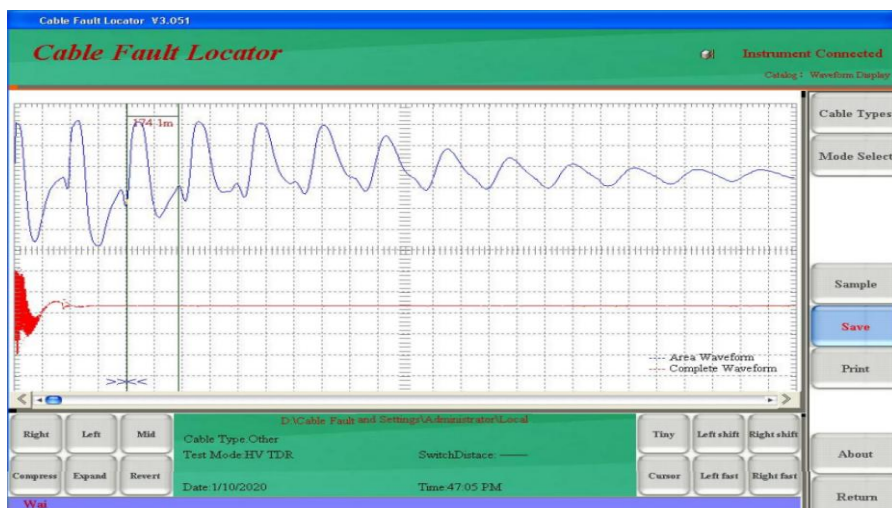

Fig 6-8
C. Press the "Cancel Sampling" key, and the instrument will stop sampling. The interface is shown in Figure 6-8 below. Move, broaden and compress the waveform left and right through the overall waveform control area to make the waveform reach the best analysis state. Next, drag the double cursors with the touch pen (click the cursors and move them after they turn green) or switch and move the cursors left and right in the cursor control area (move them in coarse, medium and micro positions) to judge the distance between the fault points at the front inflection point of the transmission pulse and